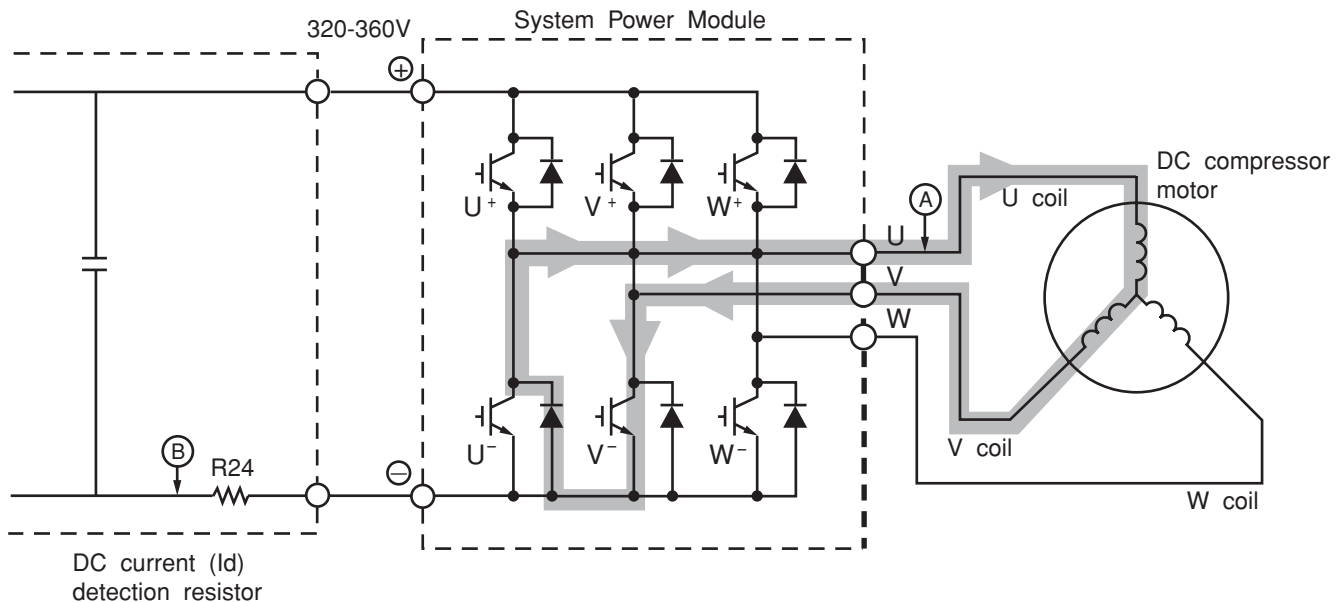

Fig. 3-4 System Power module circuit (U⁺ is OFF, V⁻ is ON)
※ At point F: U⁺ is chopped (OFF), V⁻ is ON (circuit in Fig. 3-4)
- (2) When U⁺ transistor is OFF: (by inductance of motor coil) U coil → V coil → V⁻ transistor → Return diode → Point ㊸ (Fig. 3-4)